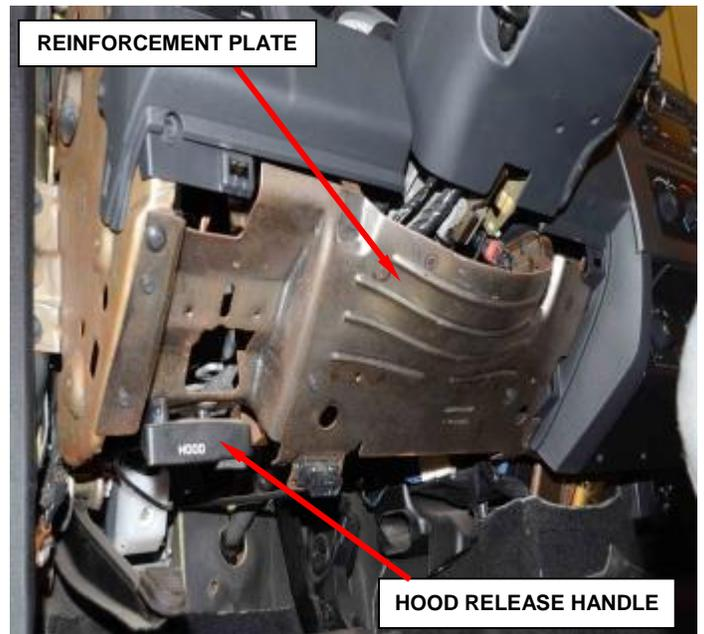

Figure 65 – Steering Column Reinforcement Plate
6. Remove the steering column reinforcement plate (Figure 65).
7. Remove the two hood release handle screws and position the handle to the side (Figure 65).